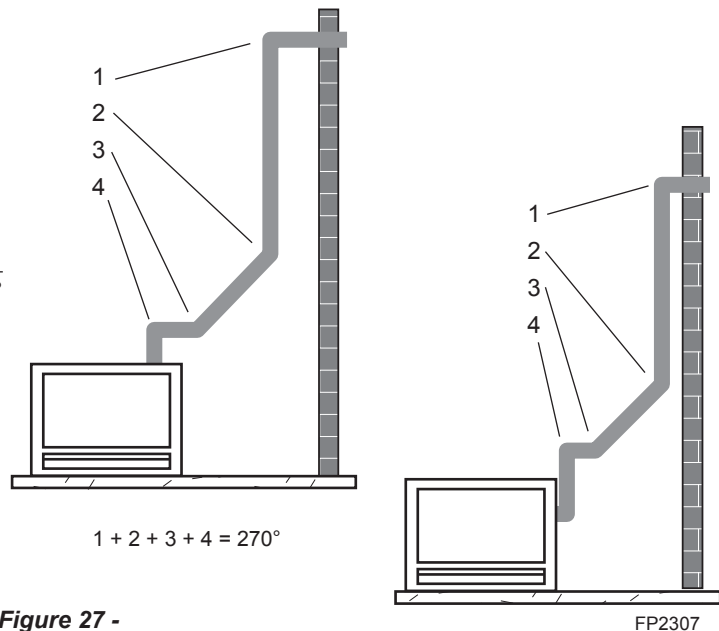

Figure 27 - Maximum Elbow Usage
- The maximum number of 45° elbows permitted per side wall installation is two (2). These elbows can be installed in either the vertical or horizontal run.
- The maximum number of elbow degrees in a system is 270°. *Figure 27*